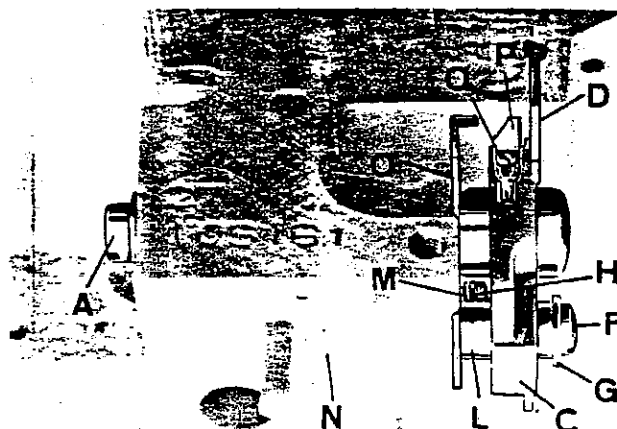

fig. 10
7. Mounting lower trimmer knife (fig. 10)